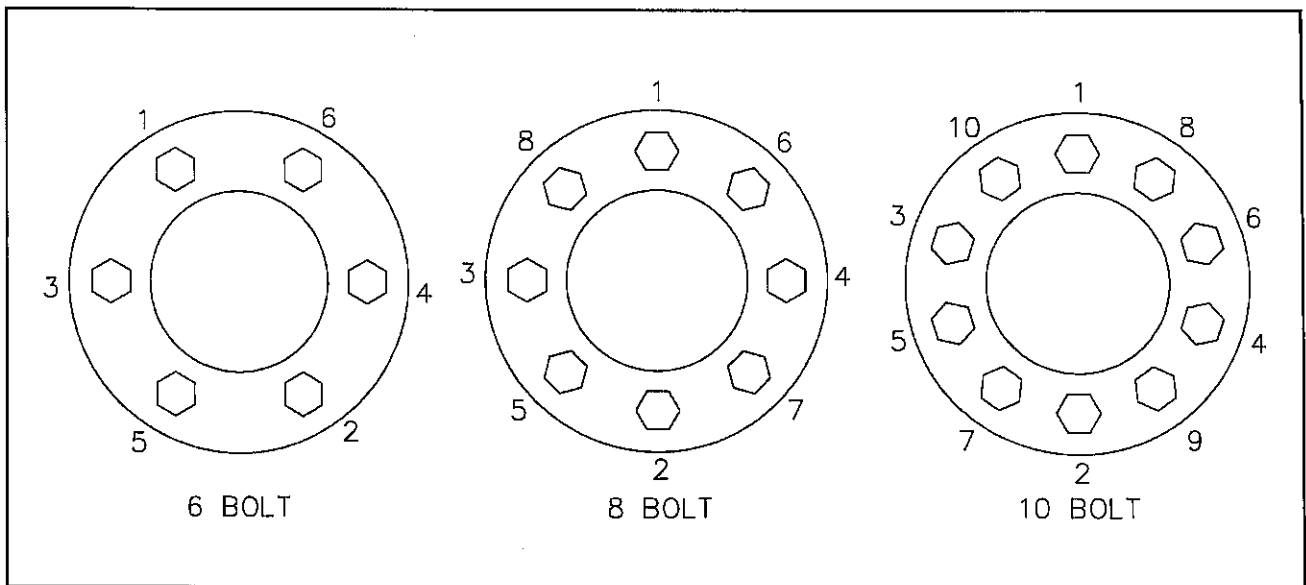

Figure 4-14 Stud Tightening Sequence
c. For ball seat mounted wheels only, install the inner capnuts on the studs and tighten to fifty foot-pounds using the sequence illustrated in Figure 4-14. Make certain that the left-handed threads are installed on the driver side of the vehicle and the right-handed threads are installed on the curbside of the vehicle.
d. Tighten the inner capnuts to full torque of 450 to 500 foot-pounds using the same sequence in Figure 4-14.
g. Install the outer capnuts (ball seat) or flange nut (pilot mount) and tighten to 50 foot-pounds using the sequence in Figure 4-14. Then tighten to full torque of 450 to 500 foot-pounds for ball seat and 500 to 550 foot-pounds for pilot mount, using the same sequence.